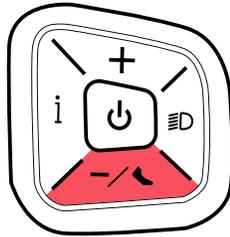

FIG.1
When the bike is at PAS level 0 and stationery, hold the "-" button to activate walking assist (fig.1). The e-bike will be running at the constant speed of 6 km/h and displays the "🚲" icon while in this mode. Release the "-" button to stop the walking assist.
1. Navigate to "bL" (fig.1). The number below should be flashing with "2".